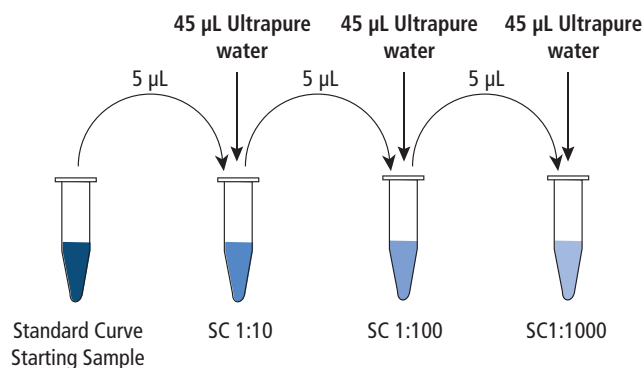

Figure 6
2. **LABEL** three microcentrifuge tubes "SC 1:10", "SC 1:100", and "SC 1:1000" (Figure 6, below).